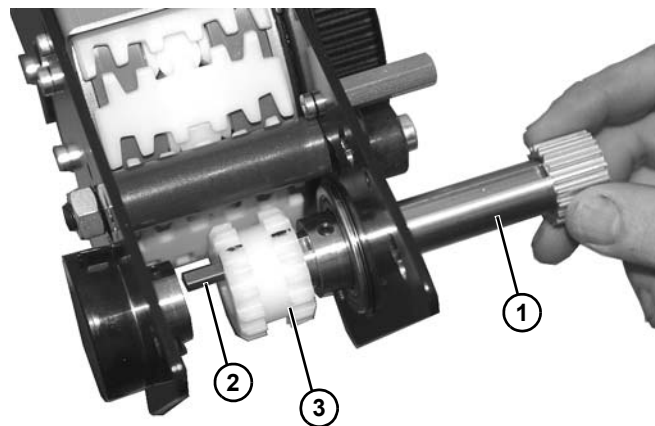

Figure 167
16. Remove drive shaft (**Figure 167, item 1**), making certain not to lose key (**Figure 167, item 2**) when removing gear (**Figure 167, item 3**).